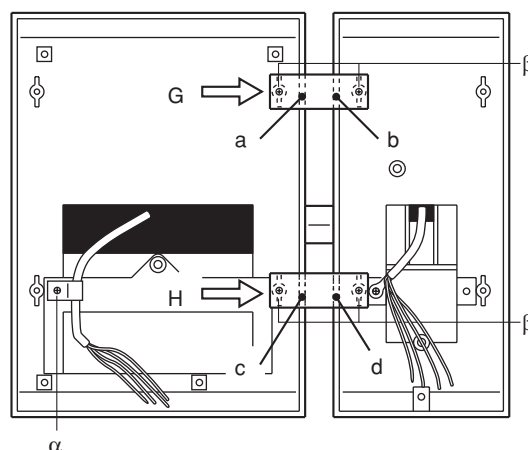

Fig. 3
- Fasten the flat plates "G", "H" (fig.3) on the front and the shim "L" provided on the back.
- Break the corresponding areas **a**, **b**, **c**, **d**, to position the plates; break walls **g**, **h**, to position shim "L" ( $\gamma$ ) (fig.3 and 4).